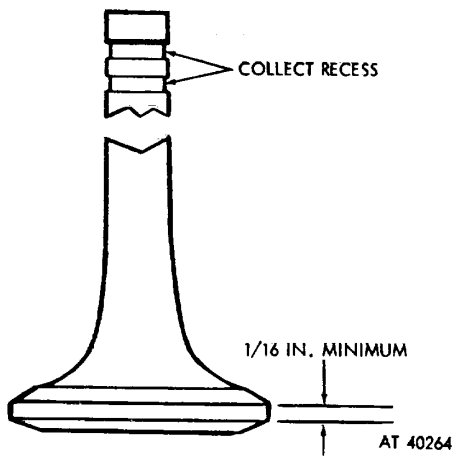

Figure 3-32. Valve head and collet check.
(1) Inspect valve heads for pitted, cupped, cracked, or excessively worn condition. Check valve head rim thickness (fig. 3-32) and replace valve if less than 1/16 inch.
(2) Inspect valve stems for scored, cracked or excessively worn condition. If stems are worn beyond 0.4490 inch replace valve.
(3) Inspect collet recesses (fig. 3-32) for serviceability.